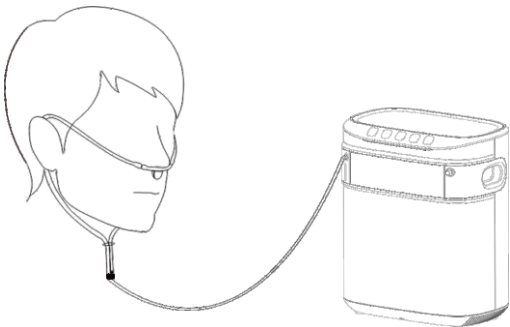

Fig. 5
2. Connect the larger section of the nasal cannula to the oxygen outlet of the machine and the other section to the headgear. Put on the headpiece nasal cannula. You are ready to start inhaling oxygen. (See Fig. 5)